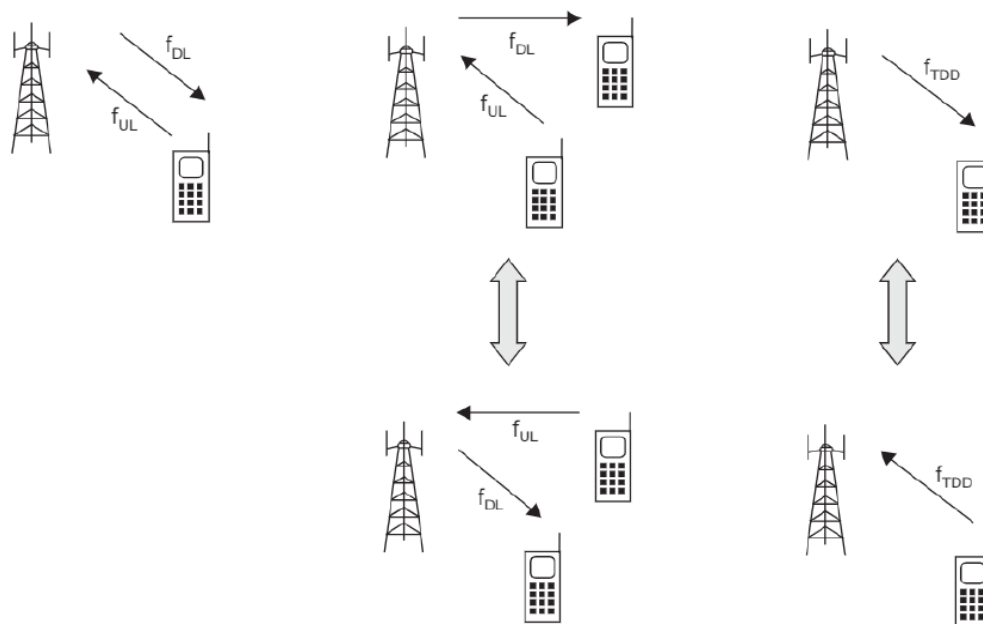

Fig 4.18: Operation of FDD and TDD modes
- A mobile communication system can operate in the transmission modes as shown in Fig. 4.18.